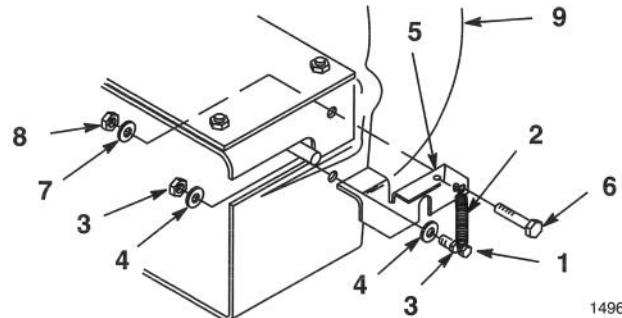

Figure 9
5. Install one end of the tension spring and a #10 nut onto a #10 x 3/4" (19 mm) screw. Thread the nut on within 1/8" (3 mm) from the end of the screw so the spring rotates freely (Fig. 9).
6. Slide a #10 washer onto the screw and insert them through the blower housing. Secure them with a second #10 (5 mm) washer and #10 nut (Fig. 9).
7. Hook the spring into the latch and mount them to blower housing with a 1 1/4 x 3 1/4" (19 mm) bolt, 1/4" (6 mm) washer and 1/4" locknut (Fig. 9). Check that the latch pivots freely.